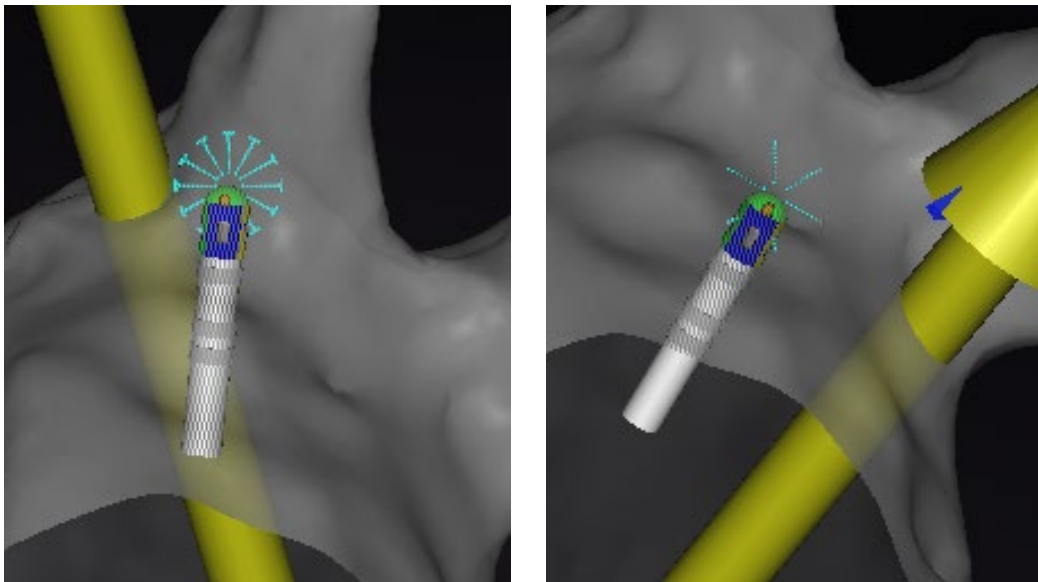

Figure 6. Examples of starburst in **Optimal Contact** (left) and **In Contact** (right)
- **Optimal Contact** (Figure 6, left)
- **In Contact** (Figure 6, right)